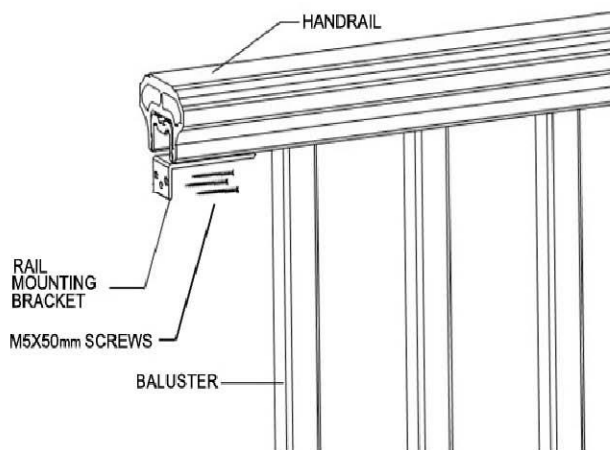

FIGURE 8
3. Slide the handrail over the retainer. As shown in Figure 8.